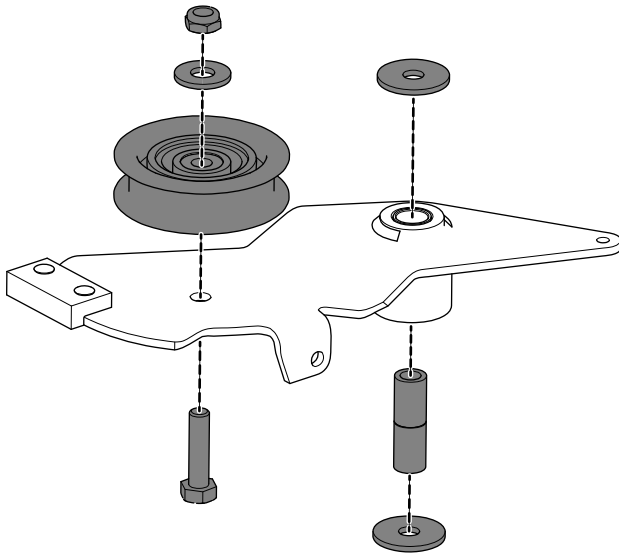

Figure 8
4. Remove the hardware from the brake arm (Figure 8).